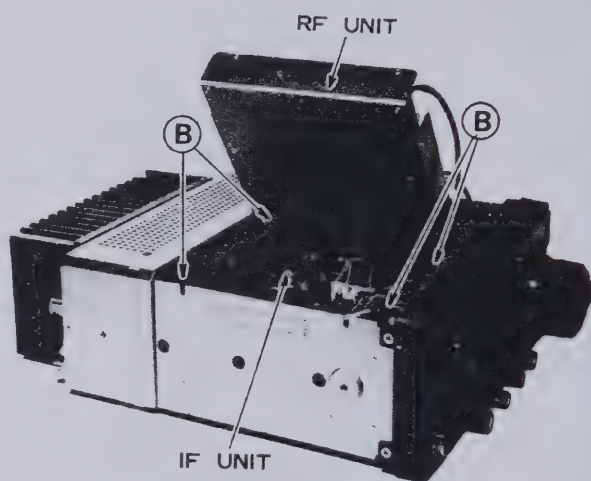

Fig. 3-3
- (3) Refer to Figure 3-3, and remove the four screws marked "B" restraining the IF Unit. Remove the three connectors of the IF Unit, and remove the board from the transceiver.